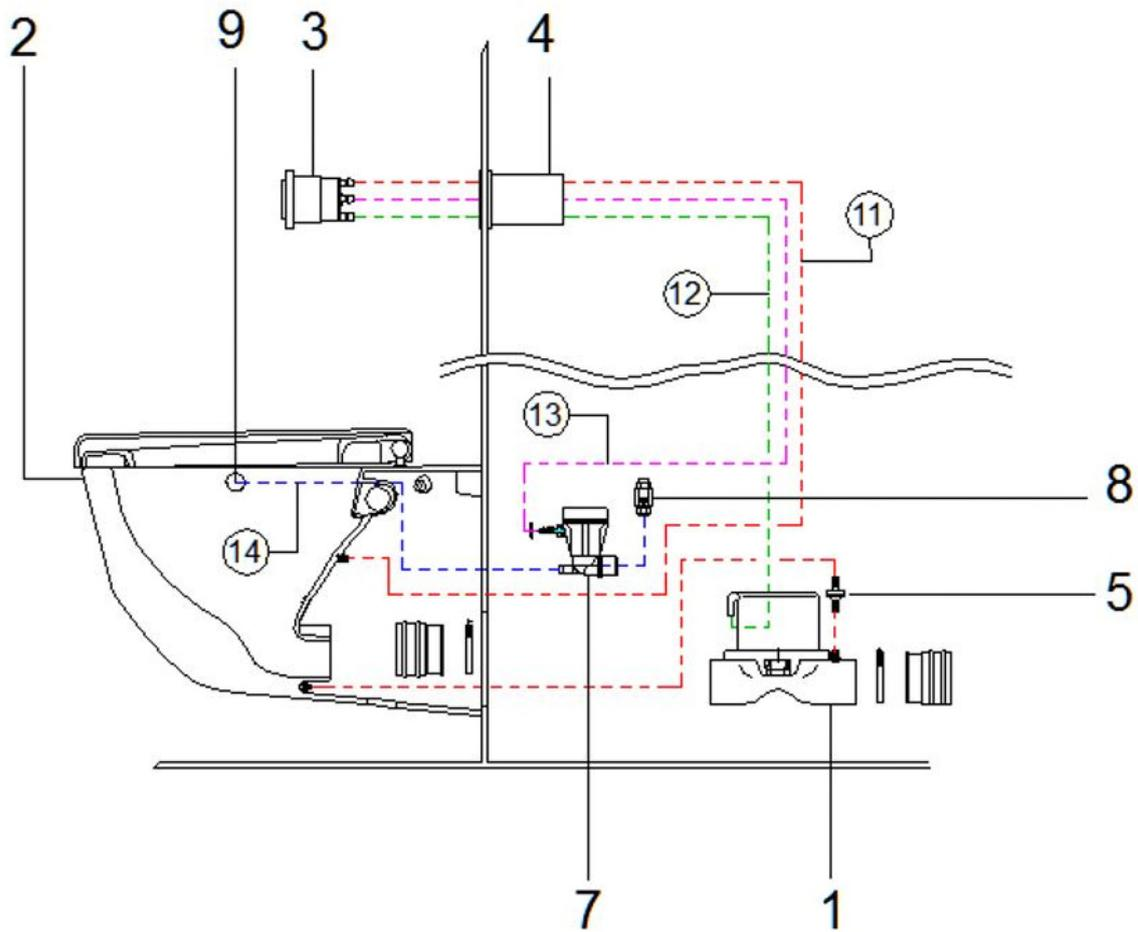

Figure 1
The flushing time of the vacuum toilet can be varied by turning the adjustment screw (10) at the rear side of the push button (3), see figure 1.